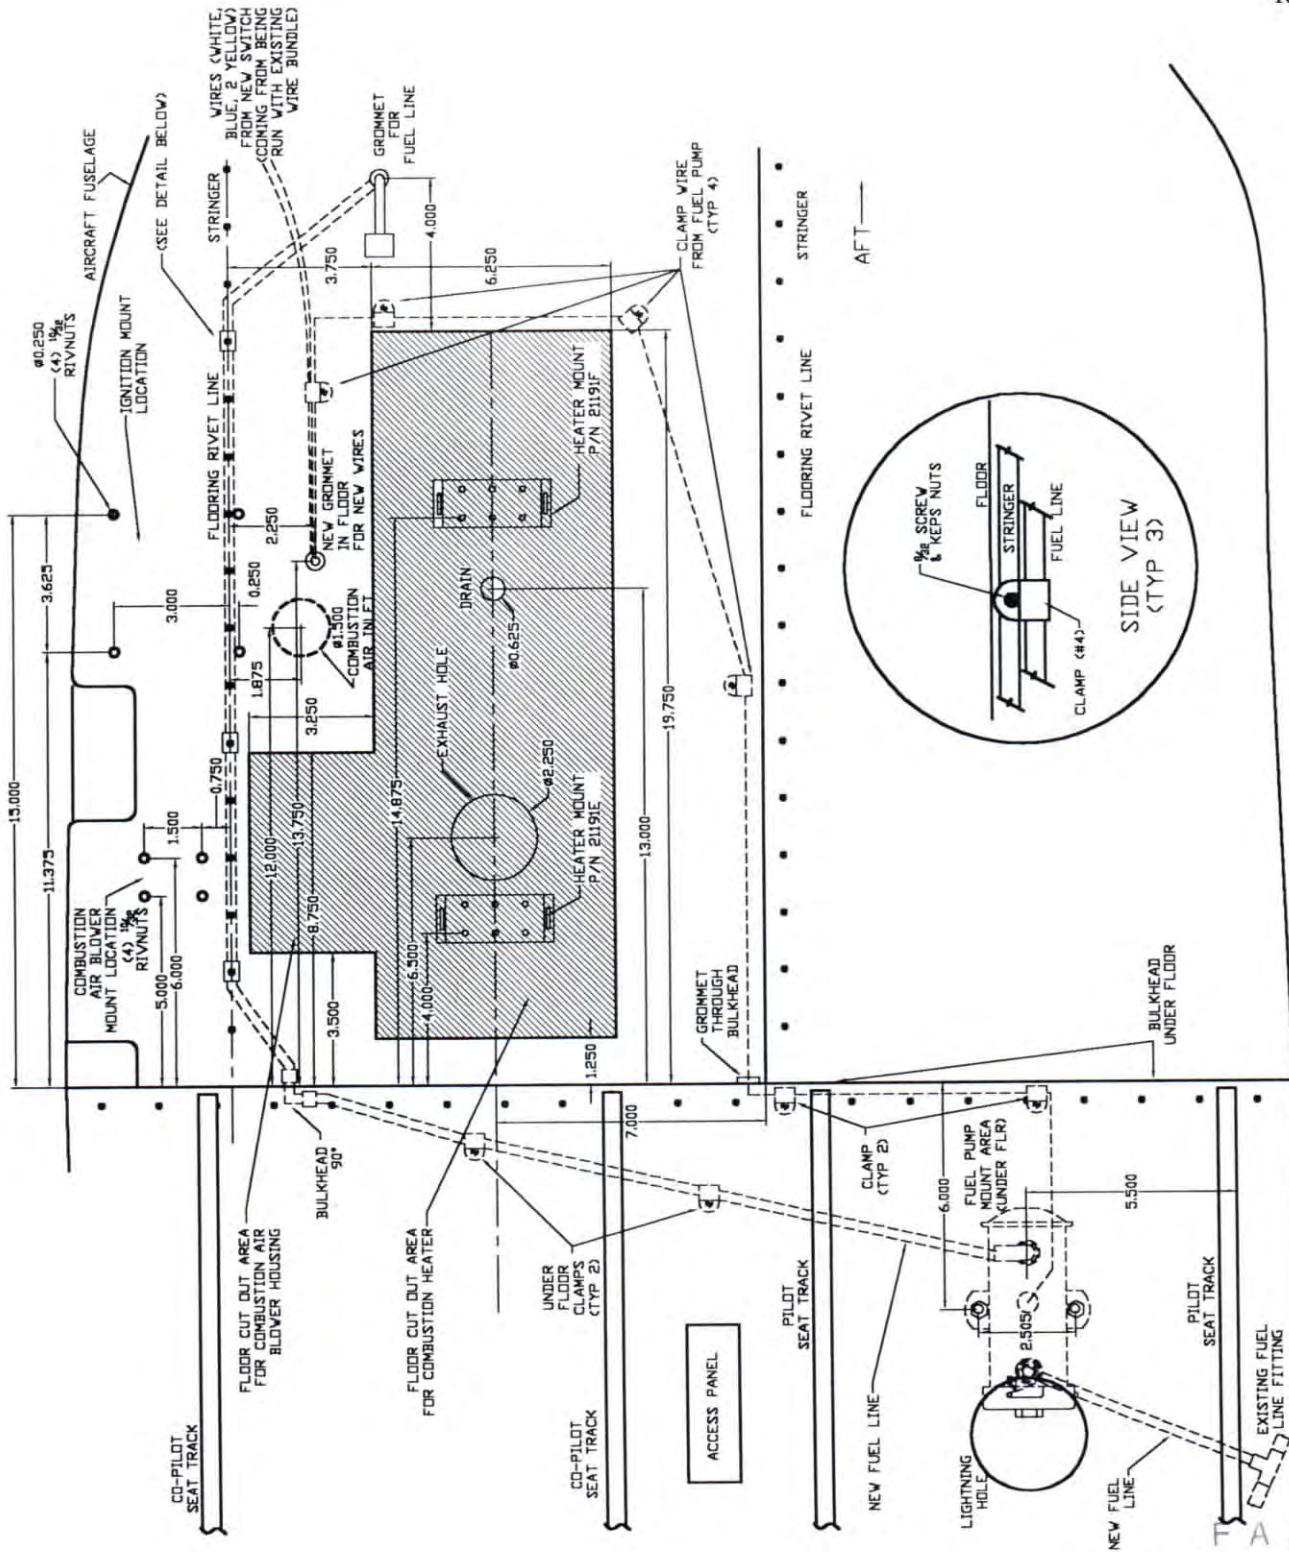

FIGURE 1
1. Heater Floor Cavity: (See Figure 1)
- a. Using the flooring edge just aft of the rivet line behind the front right seat tracks, and the right hand floor rivet line to measure as instructed in Figure 1 for the floor cut out.
- a. Knockout 1 1/2" hole as indicated in Figure 1.
- a. Knockout 2 5/8" hole as indicated in Figure 1 for the exhaust location. Use the forward bulkhead to measure along belly skin surface.
- a. Install four 10/32 rivnuts as indicated in Fig. 1 in the baggage area floor and install combustion air blower mount.
- a. Install four 10/32 rivnuts as indicated in Fig. 1 upper right. Install the ignition unit with lead connection forward. (See Fig. 1)
- b. Route the fuel line along the right side of the heater cavity under the floor (fastening to the floor stringer) as indicated using three clamps. (See insert of Fig 1)
- a. Install the fuel pump under the pilot seat floor as indicated in Fig. 1.